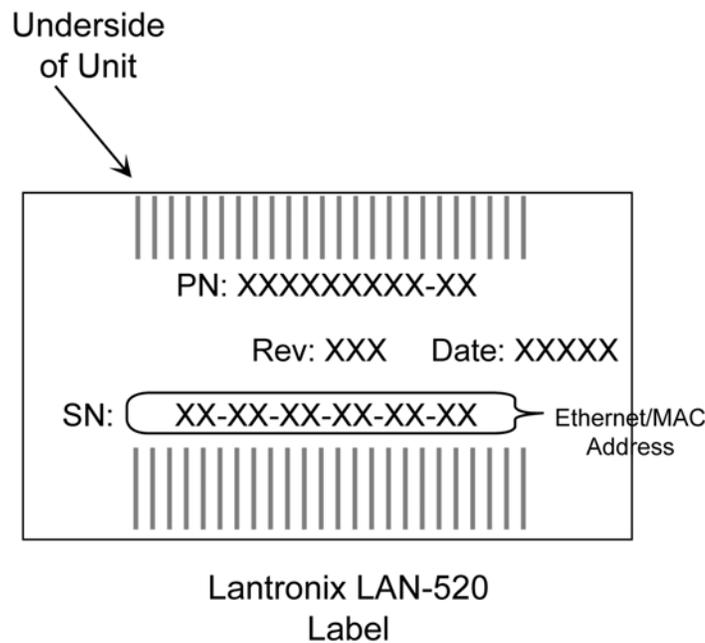

Figure 3: Locating the Ethernet/MAC Address
1. Get the Ethernet/MAC address of the LAN-520. On the LAN-520, the Ethernet/MAC address is found on the label placed on the underside of the unit (see Figure 3).